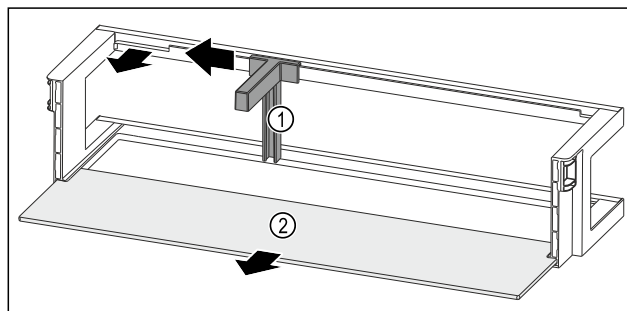

Fig. 177 Door rack with bottle holder and shelf
- Slide the bottle holder Fig. 177 (1) to the side as far as the recess.
- Remove the bottle holder Fig. 177 (1).
- Remove the shelf Fig. 177 (2).